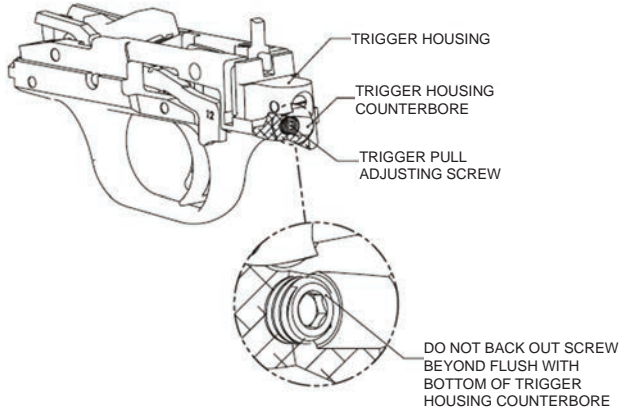
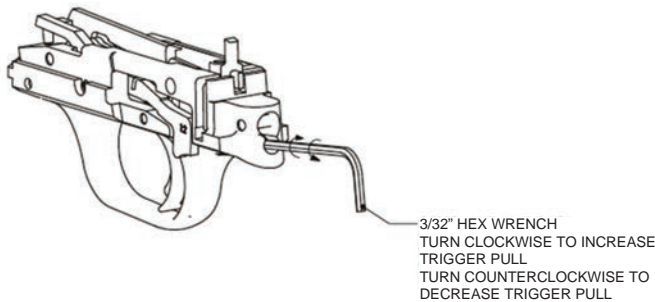

Fig. 20
Fig. 21
Your firearm may be equipped with Mossberg’s revolutionary “Lightning Pump Action” Trigger System (US Patent 8,220,193), an adjustable trigger system that allows you to safely adjust the trigger pull of your firearm from 3 pounds to 6 pounds (approximately). You can adjust the trigger pull by turning the Trigger Pull Adjusting Screw (See Fig. 20 & Fig. 21) clockwise (to increase trigger pull) or counterclockwise (to decrease trigger pull).
**Adjust the Trigger Pull:** The Trigger Pull Adjusting Screw is located in the rear of the trigger housing (Fig. 20). Using a 3/32” hex wrench, turn the Trigger Pull Adjusting Screw clockwise to increase the trigger pull, or counterclockwise to decrease the trigger pull (Fig. 21). The Trigger Pull Adjusting Screw incorporates a nylon patch that provides resistance while turning the screw for adjustment, this is normal and to be expected. To set the trigger pull to the minimum setting, back the Trigger Pull Adjusting Screw out until it is approximately flush with the bottom surface of the trigger housing counterbore (Fig. 20). **Do not remove the Trigger Pull Adjusting Screw, spring and follower from the trigger housing. The components may get lost and trigger pull adjustment will not be possible.**